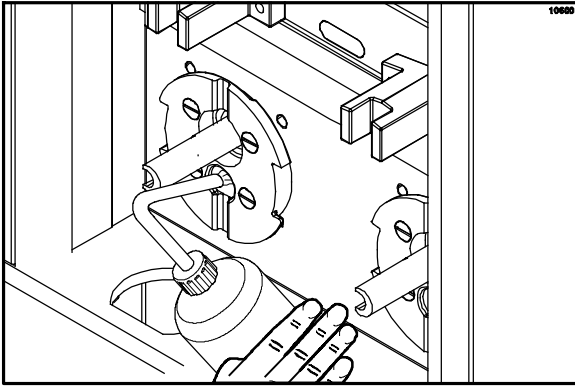

Figure 43
16. Fill the squeeze bottle with cleaning solution. Place a 12 oz. cup under each dispensing pump head. Insert the tube end of the squeeze bottle into the pump housing. Squeeze the bottle firmly to force solution out of the port. Perform this procedure at least 15 seconds for each pump housing. (See Figure 43.)